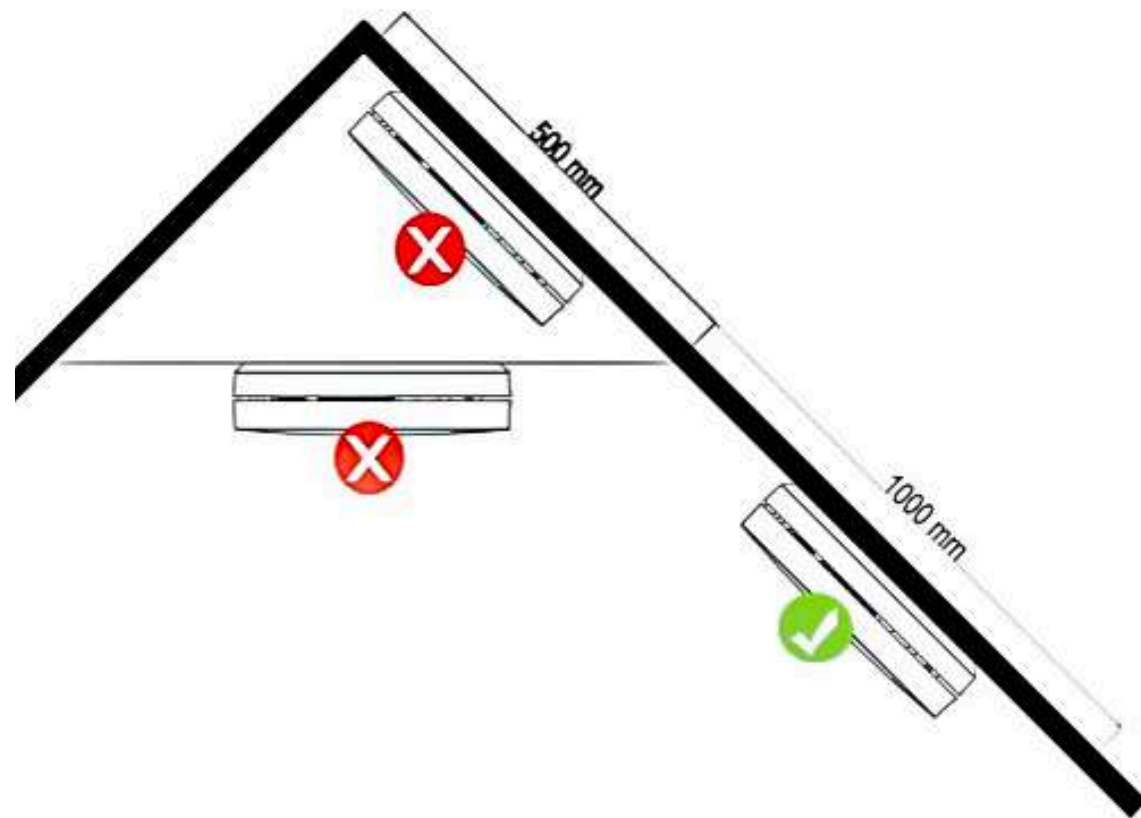

Figure 2: Recommended mounting locations
- Check figure 2 and 3 for correct mounting locations.